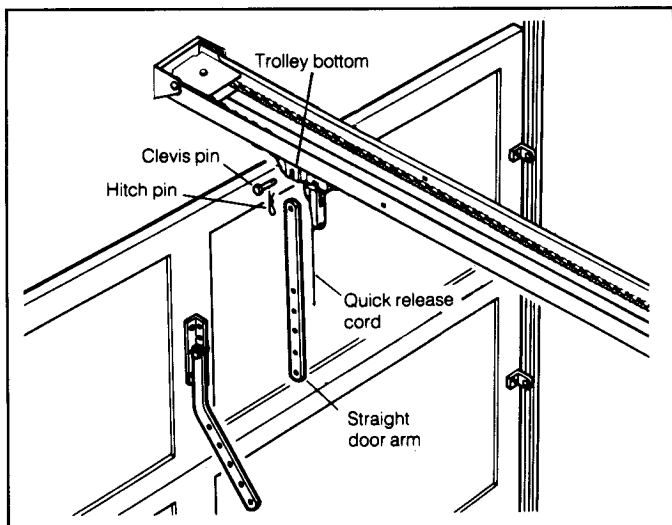

Figure 17. Straight Door Arm Section Attached to Trolley
Step 36: Insert the straight section of the door arm into the quick release trolley bottom and insert the clevis pin through the quick release trolley bottom and door arm and lock in place with the hitch pin (see Figure 17).